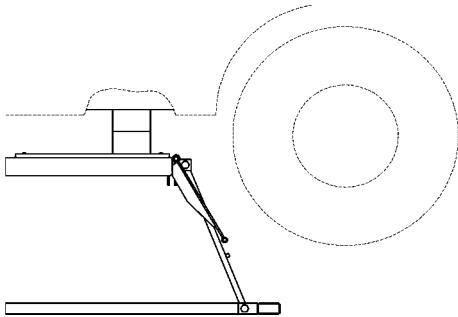

Fig 5 Optional 3" Spacer Pads
- D. Use optional 3" spacer pads if additional height between lift and vehicle is required to clear underbody parts as shown in Fig. 5.